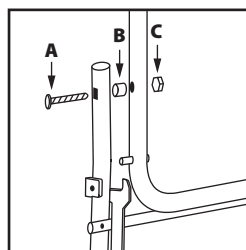

Fig. 5
- Now attach component **4** to component **3** using fixings **A, B & C** from **BAG 1**. Ensure that component **4** is the right way round so the latching pin engages with the latch on component **3**. (Fig 5)